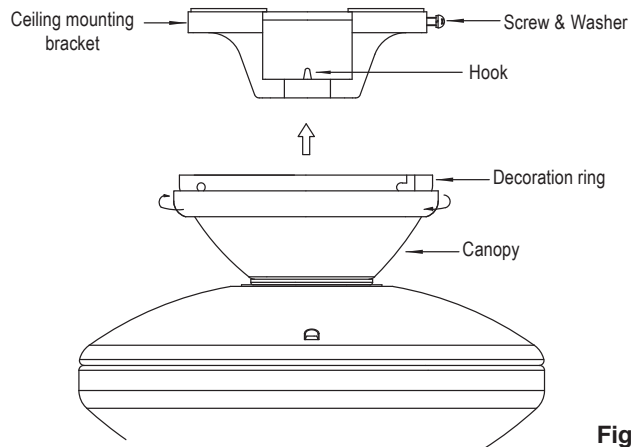

Fig. 13
Step 3. Make sure all four mounting screws are tight. (Fig. 13)